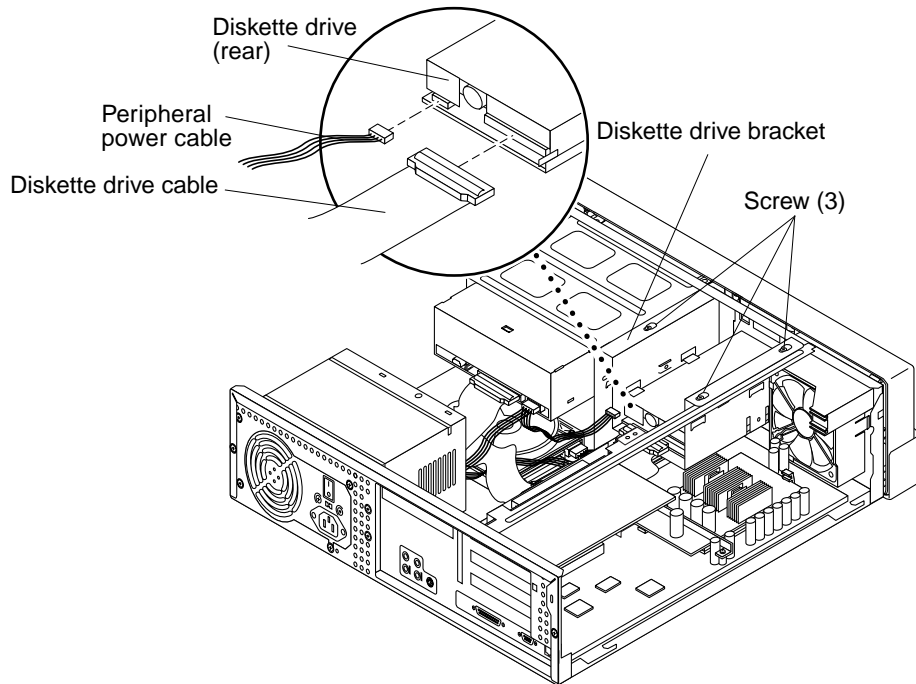
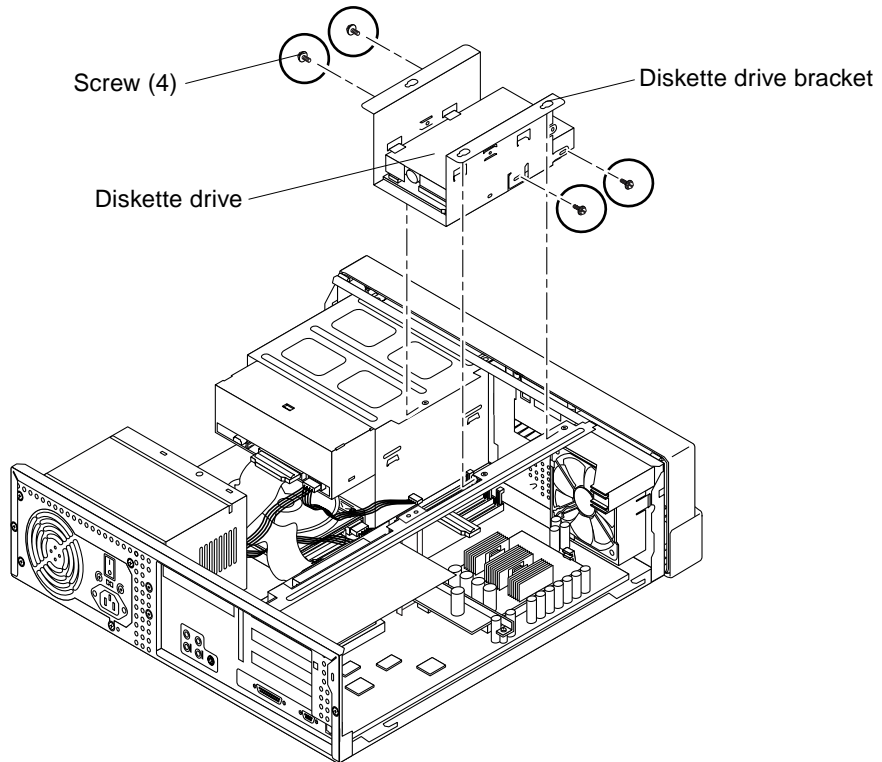

FIGURE 7-1 Removing and Replacing the Diskette Drive, Part 1
FIGURE 7-2 Removing and Replacing the Diskette Drive, Part 2
- i. **Using a No. 2 Phillips screwdriver, loosen (but do not remove) the three screws securing the diskette drive bracket to the chassis (see FIGURE 7-1).**
- i. Place the diskette drive bracket back in position, aligning the three holes in the bracket with the three securing screws on the chassis (see FIGURE 7-1).
- i. Place the diskette drive bracket back in position, aligning the three holes in the bracket with the three securing screws on the chassis (see FIGURE 7-1).**
2. **Remove the diskette drive as follows (FIGURE 7-1 and FIGURE 7-2):**
1. **Replace the diskette drive as follows (FIGURE 7-1 and FIGURE 7-2):**